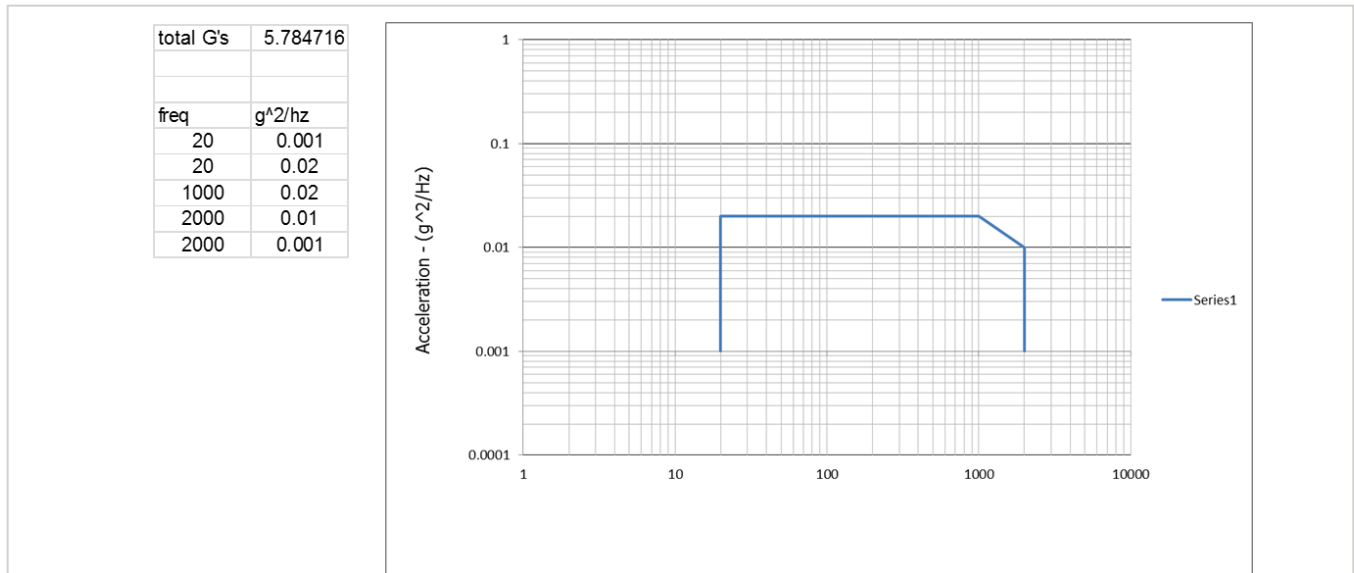

FIGURE 45: VIBRATION PROFILE
- Specific vibration profile defined in Figure 45.*